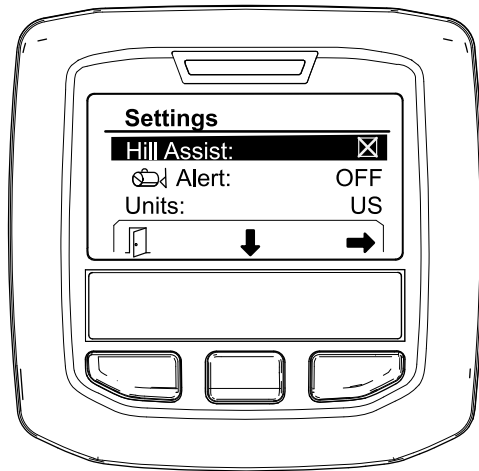

Figure 7
1. Scroll down to HILL ASSIST and press the center selection button to enter the Hill Assist settings menu (Figure 7).